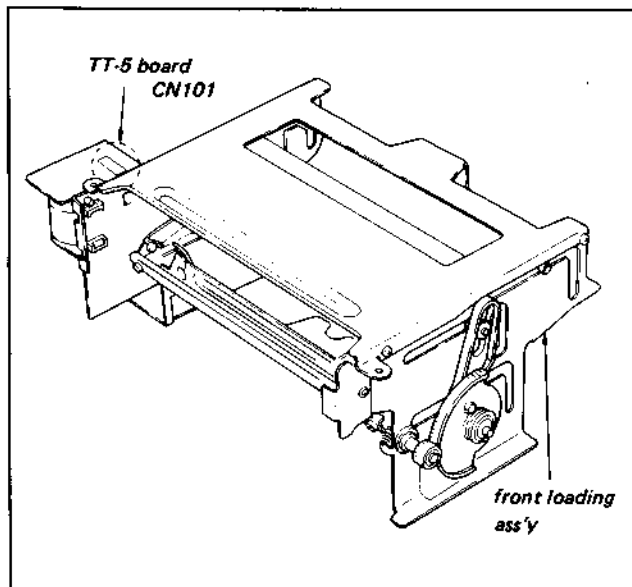

Fig. 1-6a. Operation without cassette
A. With front loading (cassette lift) assembly installed (See Fig. 1-6a)